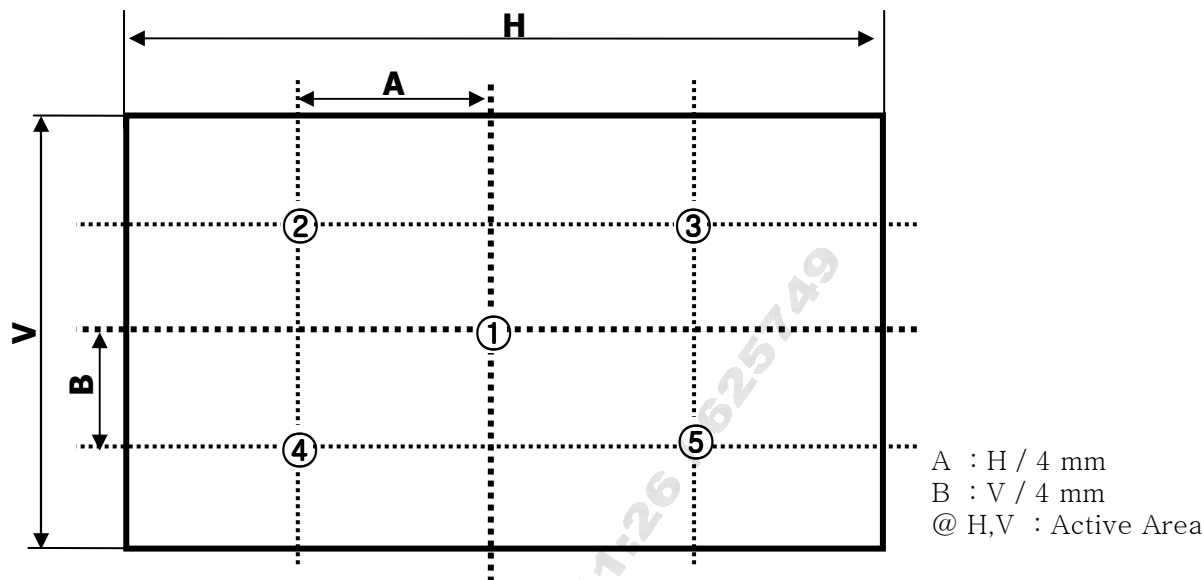

FIG. 2 Measure Point for Luminance
2. Surface luminance is determined after the unit has been 'ON' and 1Hour after lighting the backlight in a dark environment at $25 \pm 2^\circ\text{C}$. Surface luminance is the luminance value at center 1-point across the LCD surface 50cm from the surface with all pixels displaying white. For more information see the FIG. 2.
For more information, see the FIG. 2.